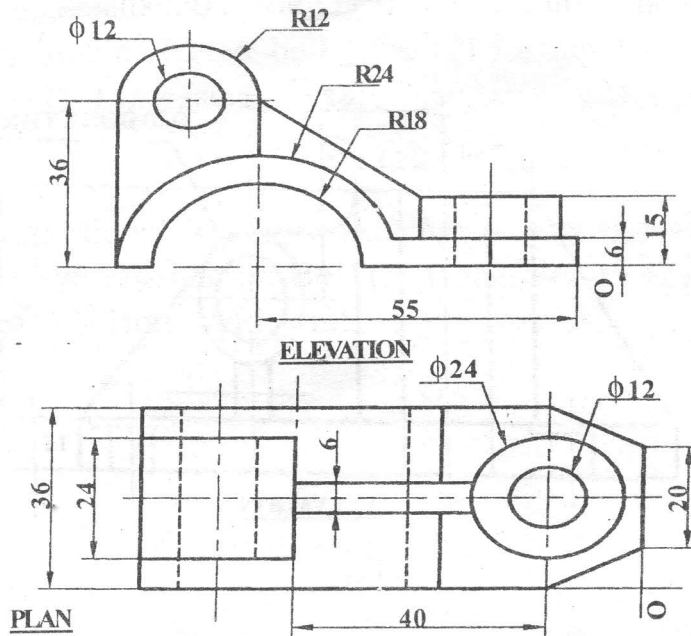

Fig. 6
- Q.8)** Elevation and Plan of an object are shown in **fig. 6** : Draw its Isometric View about 'O' and give overall dimensions. [17+3=20]